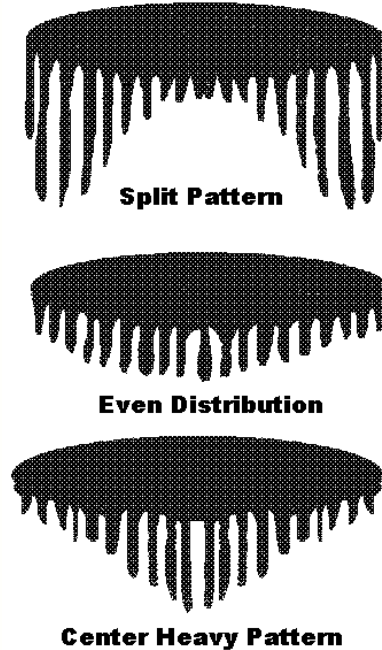

Figure 13 - Horizontal Test Pattern
(1) Spray a horizontal test pattern (air cap horns in a vertical position). Hold the trigger open until the paint begins to run. There should be relatively even distribution of the paint across the full width of the pattern. (see Figure 13). Adjust the pattern width with the spreader adjustment valve. If distribution is not even, there is a problem with either the air cap or the fluid tip